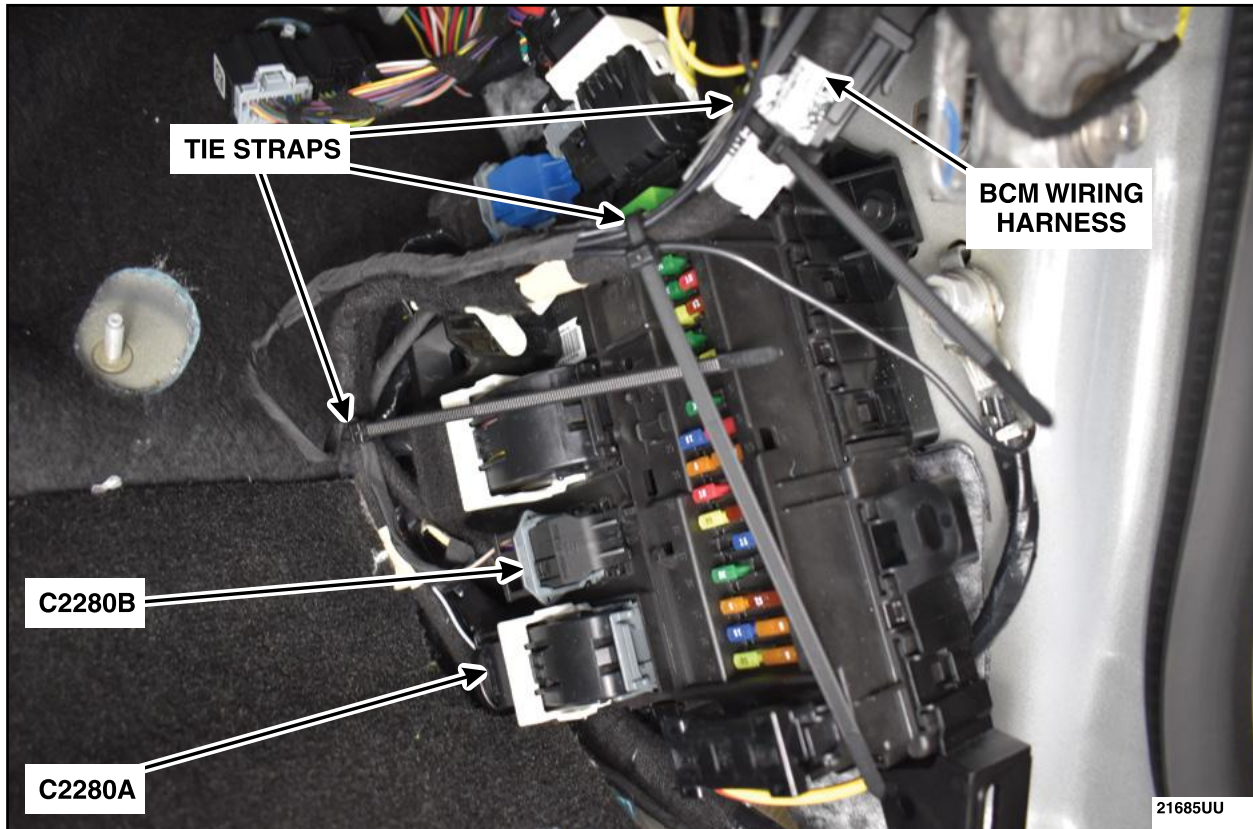

FIGURE 47
50. Position back the carpet. Reconnect C2280A and C2280B to the BCM. Secure the relay wiring to the existing BCM wiring harness using tie straps. Trim any tie straps excess. See Figure 47.